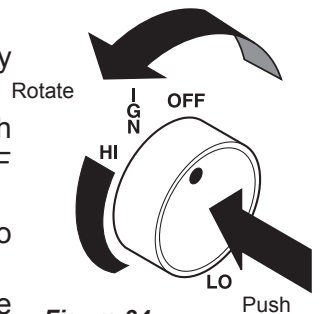

**Figure 34 -
6. From OFF position, push in gas control knob slightly and turn counterclockwise  to the IGN position. *Figure 34*. Push in and hold control knob for 5 seconds.